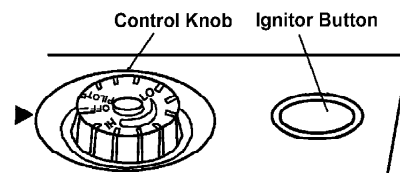

Figure 20 - Control Knob In The OFF Position
4. Wait five(5) minutes to clear out any gas. Then smell for gas, including near the floor. If you smell gas, STOP! Follow "B" in the safety information on the side of heater. If you don't smell gas, go to the next step.
5. Turn control knob counterclockwise ↺ to the PILOT position. Press in control knob for five(5) seconds. (see Figure 20).